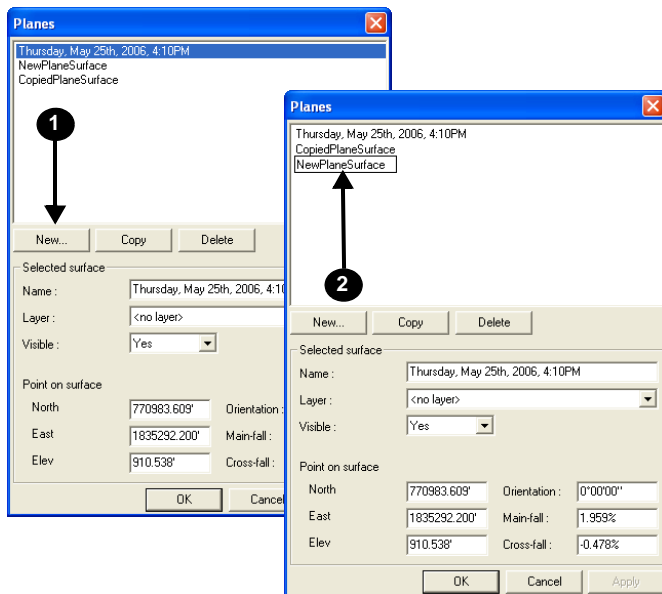

Figure 7-8. Create a New Plane Surface
2. Press **New** (Figure 7-8 on page 7-9).
3. Type a name for the copied plane surface and press **Enter** (Figure 7-8 on page 7-9). If needed, click-pause-click a plane surface name to rename a plane surface.